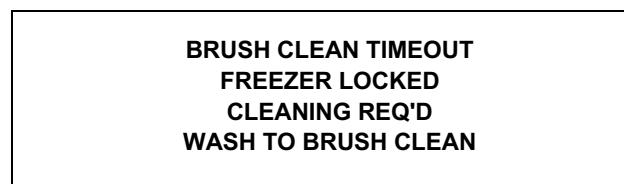

Figure 33
1. The brush clean timer has elapsed (maximum setting of 14 days). (See Figure 33.)